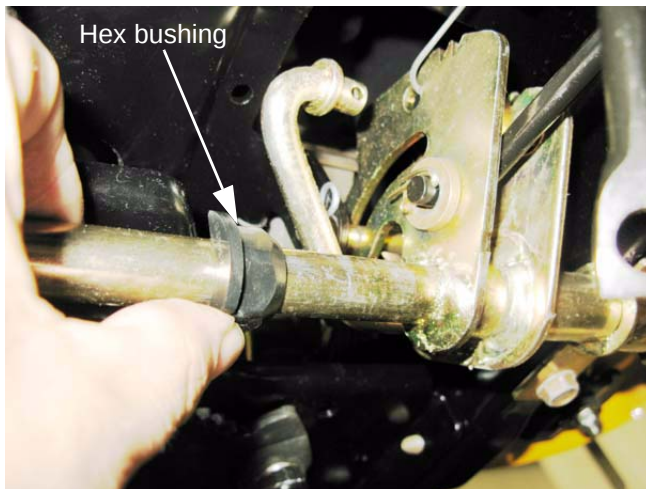

Figure 6.35
5. Snap the hex bushing off of the brake pedal shaft. See Figure 6.35.